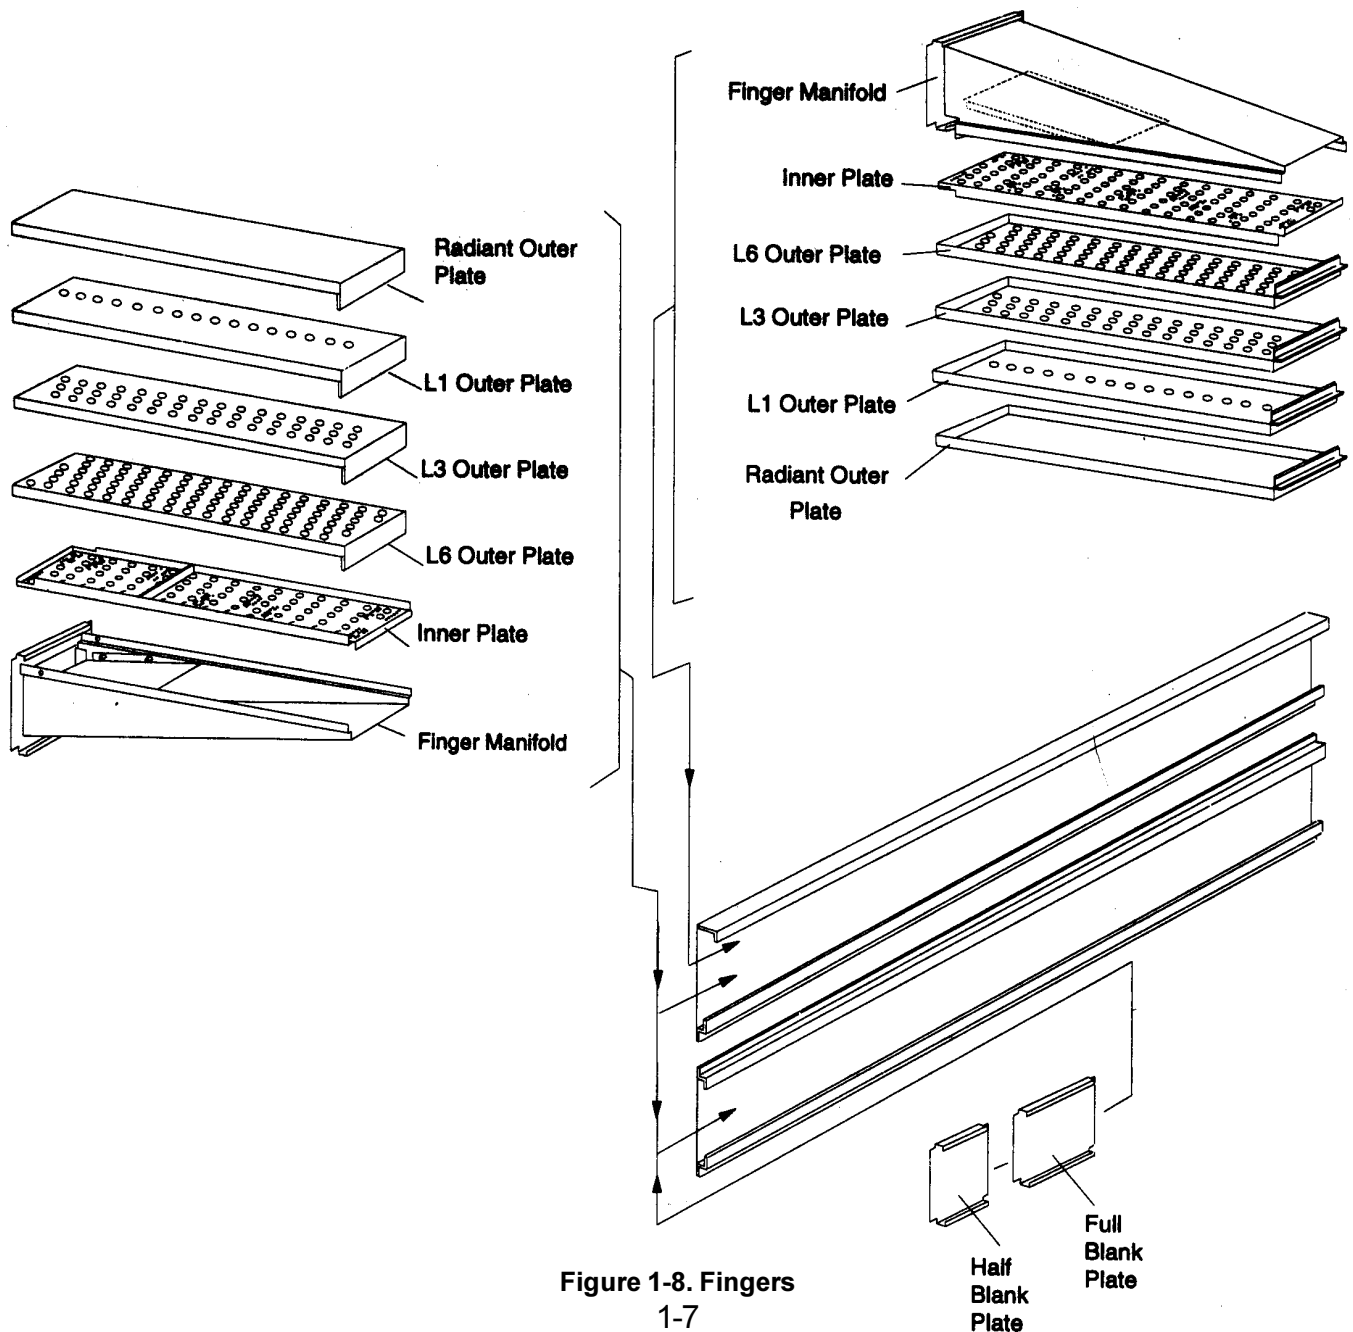

Figure 1-8. Fingers
The Air Finger Assemblies are made up of three parts as follows (See Figure 1-8):
3. **Finger Manifold**-The Finger Manifold is the assembly which slides on tracks into the oven plenum. Blank plates are available to install on the plenum where an air finger is not required. The finger manifold contains one non-adjustable baffle, as shown in Figure 1-8.